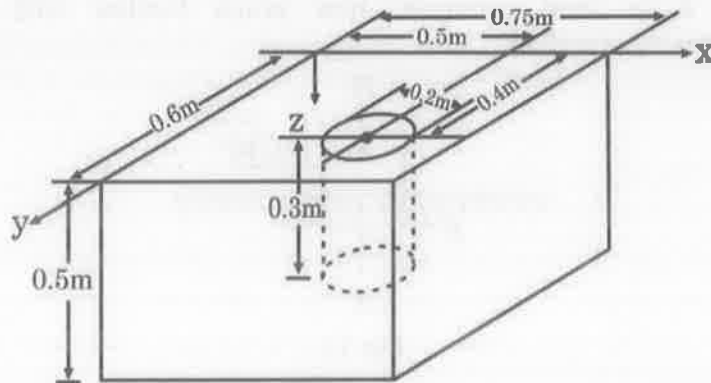

Fig 8
- (b) A concrete block of size $0.60 \text{ m} \times 0.75 \text{ m} \times 0.5 \text{ m}$ is cast with a hole of diameter 0.2 m and depth 0.3 m as shown in Fig. 8. The hole is completely filled with steel balls weighing 2500 N . Locate the centre of gravity of the body. Take the weight of concrete = 25000 N/m^3 .